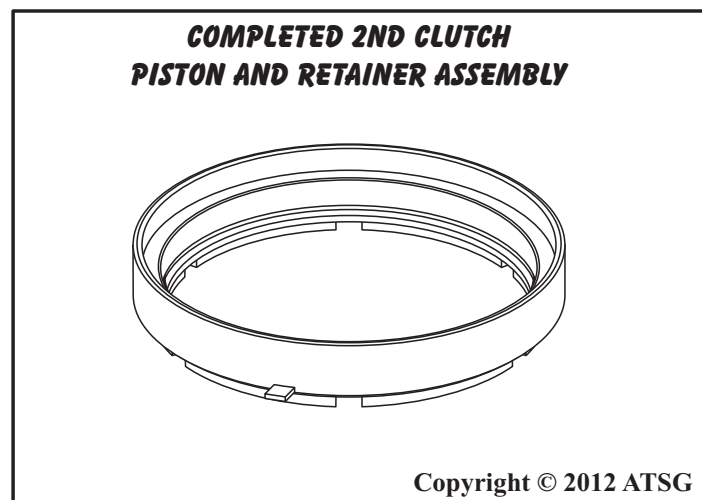

Figure 197
4. Set completed 2nd clutch piston and retainer assembly aside for the final assembly process, as shown in Figure 197.